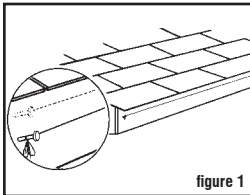

figure 1
Mark the ideal gutter slope with string. Slope the gutter (A) toward the downspout (4) with a 1" drop for every 40 horizontal feet. Tack the string to the fascia board 3/4" below the shingles (figure 1). Stretch the string taut to the downspout end of the gutter and also tack it 3/4" below the shingles. Measure down the small distance needed to achieve a drop of 1" in 40' and re-tack the string at the low end.